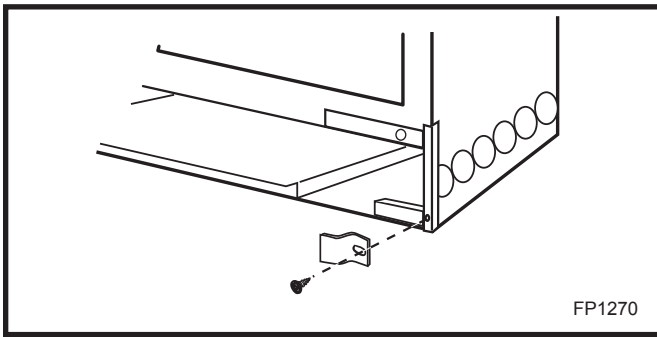

Fig. 33 Bracket for HE25BTKP.
3. Install bracket on each side of the cabinet. (Fig. 33)